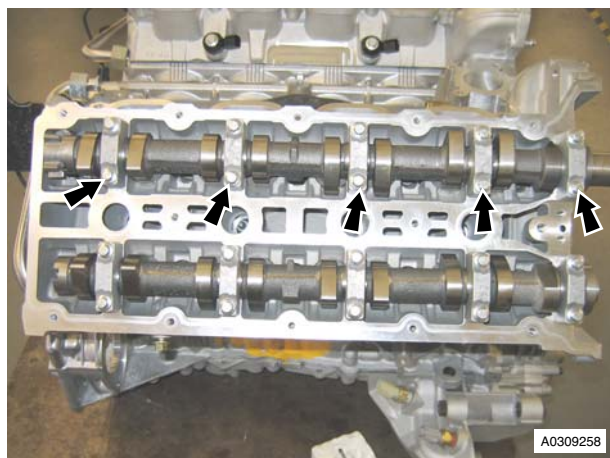

Figure 10
23. Remove RH exhaust camshaft bearing cap retaining bolts (x10) evenly and in stages (see Figure 10).